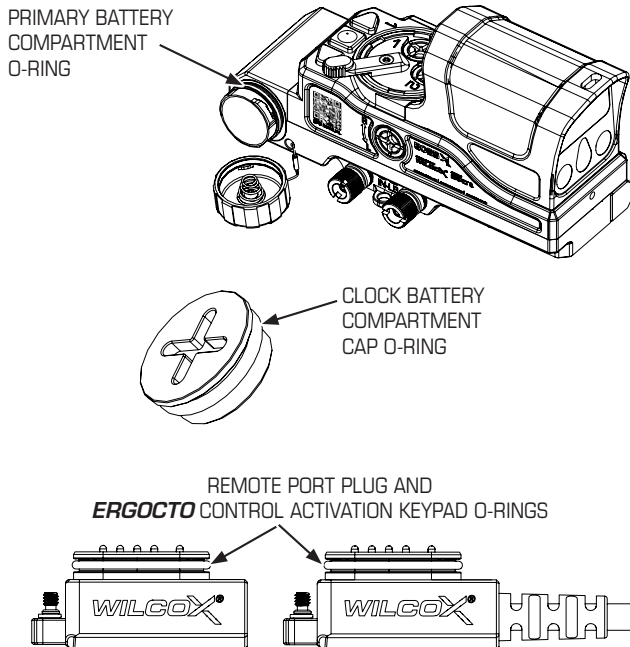

Figure 4.3-1 Inspecting and Replacing O-rings
- Step 2.)** Inspect the O-ring (see Figure 4.3-1). If it is cracked, pinched, hard, dry, or feels tacky, gently remove the O-ring using a pick tool. Carefully apply Silicone Grease to both sides with the thumb and index finger and install, using caution not to overstretch or damage the O-ring.